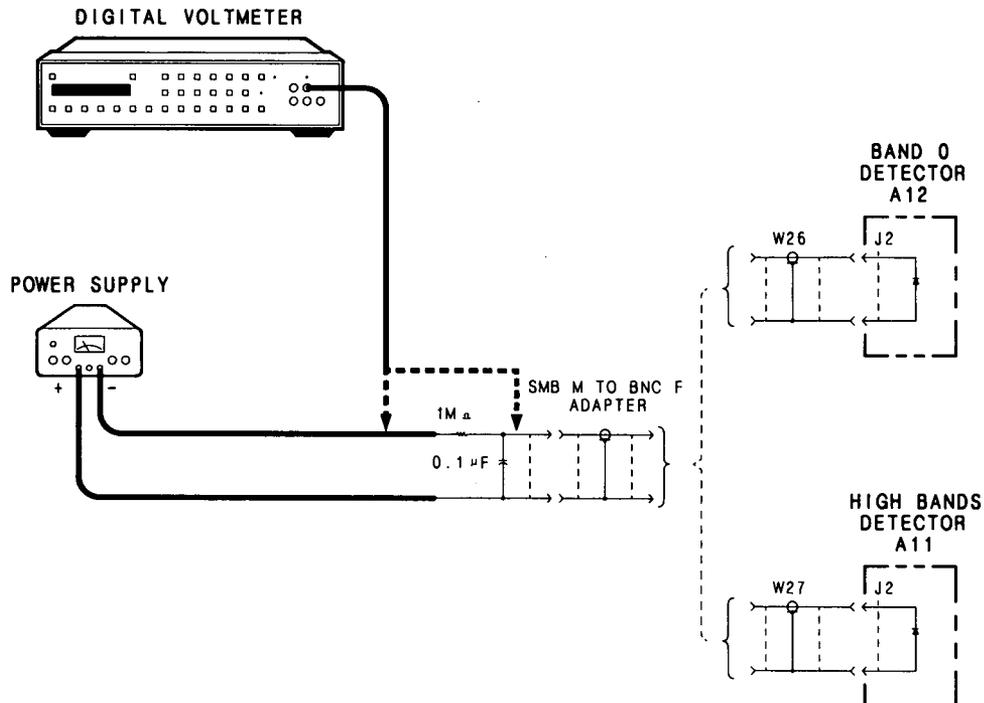

Figure 5-46. Logger Temperature Compensation Test Setup
5. Connect the test equipment as shown in Figure 5-46 with cable W27 connector connected to an SMB-to-BNC adapter.
6. Connect the DVM across the output terminals of the Power Supply and adjust the power supply output for 5.00 ± 0.01 Vdc. Move the DVM connections back to the SMB-to-BNC adapter as shown in Figure 5-46.
10. Disconnect the high band detector A11 cable W27 from the SMB-to-BNC adapter and connect the low band detector A12 cable W26 to the adapter as shown in Figure 5-46.
11. Connect the DVM at the output of the Power Supply and check that the output is still at 5.00 ± 0.01 Vdc. Move the DVM connections back to the SMB-to-BNC adapter as shown in Figure 5-46.